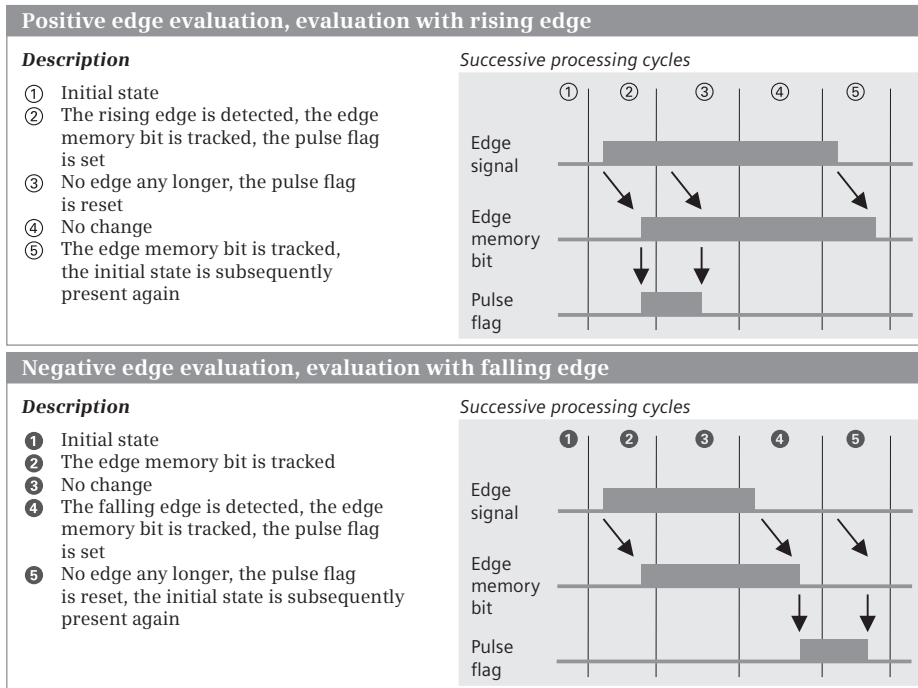
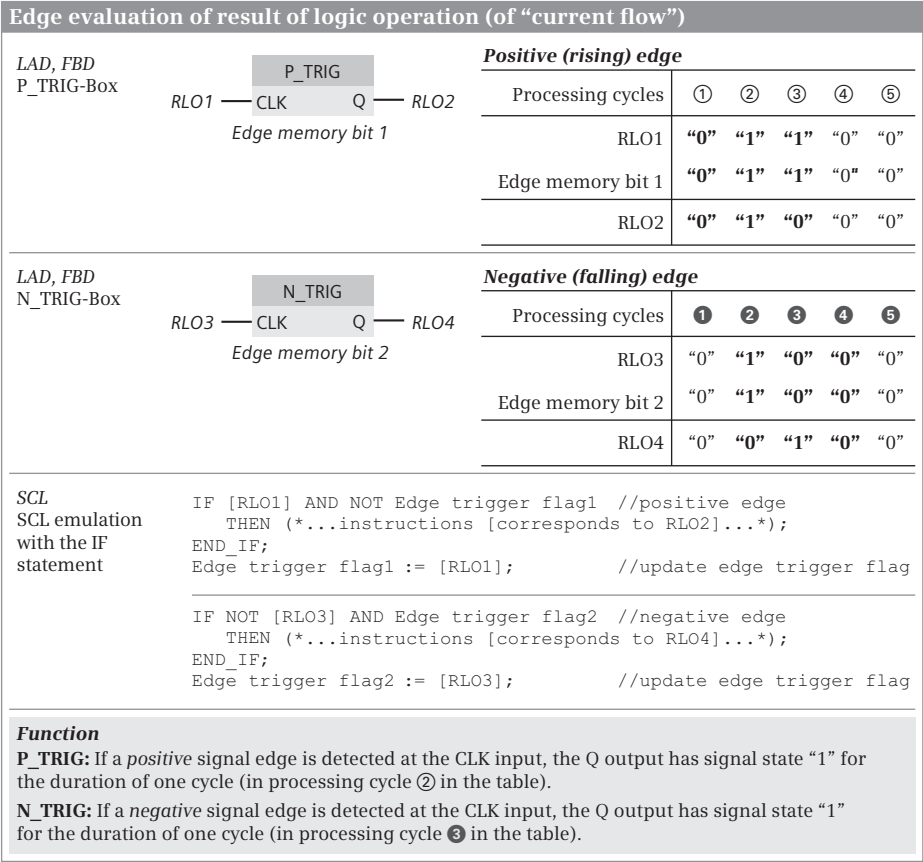
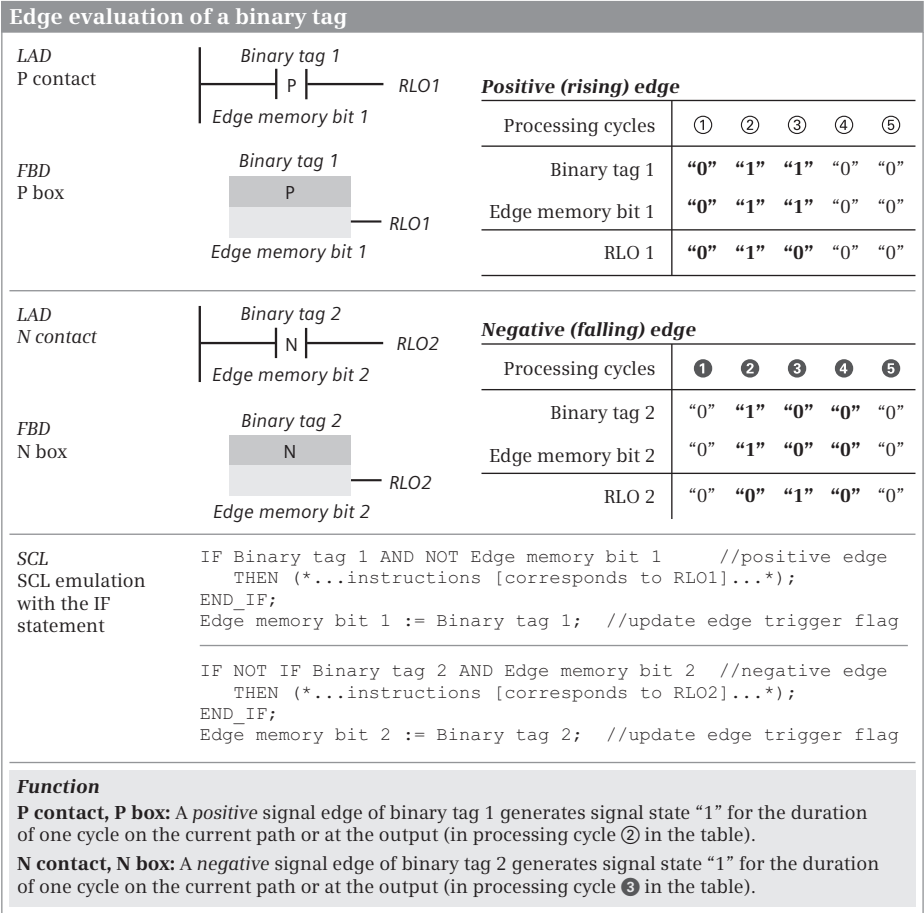
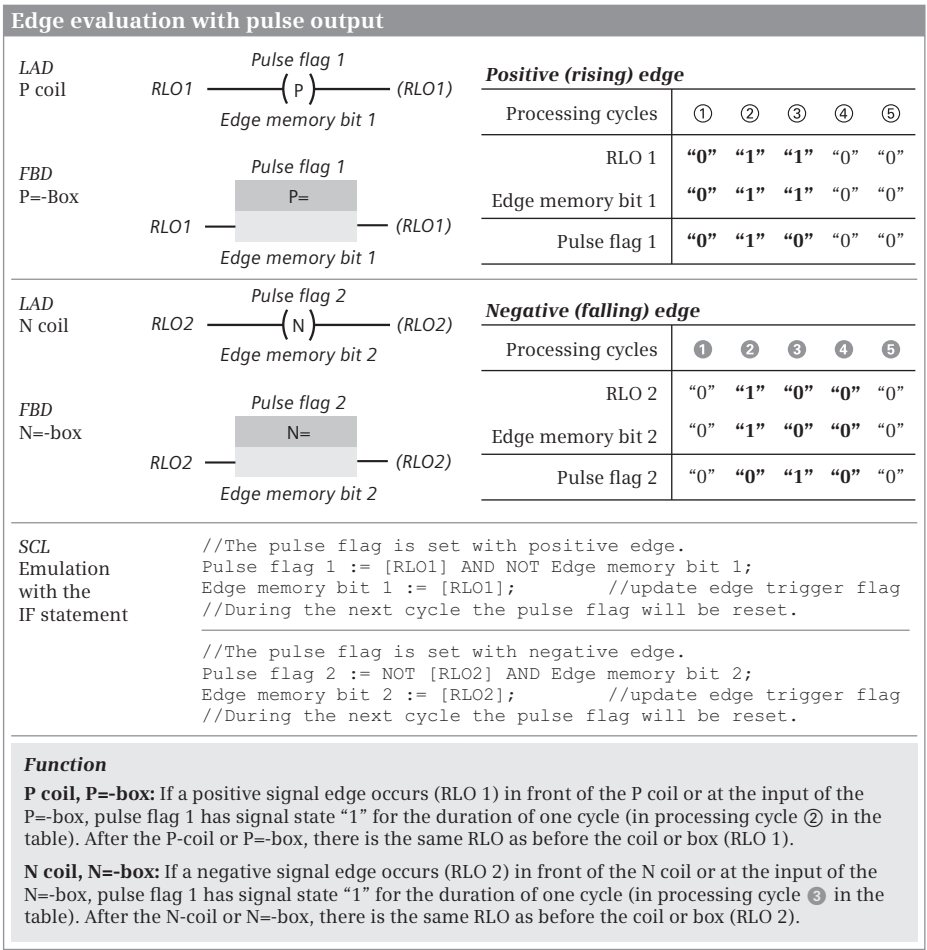

Fig. 10.11 Principle of operation of an edge evaluation in successive cycles
Fig. 10.12 Edge evaluation of result of logic operation (of the “current flow”)
Fig. 10.13 Edge evaluation of a binary tag
Fig. 10.14 Edge evaluation with pulse output
Principle of operation of the positive edge (Fig. 10.11): ① In the initial state, the signal being monitored for an edge, the edge trigger flag, and the pulse flag have signal state “0”. ② The edge signal then changes its state from “0” to “1”. The signal state of the edge trigger flag is initially still “0” so that a rising edge is detected and the pulse flag is set to “1”. The edge trigger flag is updated to signal state “1”. ③ The next processing cycle does not show a change in the signal state or edge signal (comparison with signal state of edge trigger flag). The pulse flag is reset to “0”. ④ No changes take place in the next processing cycles. ⑤ If the edge signal is reset to state “0” again, the edge trigger flag is also updated and the initial state is reached. The pulse flag was therefore only set to “1” for one processing cycle.
Fig. 10.12 shows the representation and signal states of edge evaluation. The principle of operation of edge evaluation is described in detail in Fig. 10.11: The edge signal corresponds to the result of logic operation present at the CLK input, the edge trigger flag corresponds to the binary tag named underneath the function, and the pulse flag corresponds to the result of logic operation following the edge evaluation.
Fig. 10.13 shows the representation and signal states of edge evaluation. The principle of operation of edge evaluation is described in detail in Fig. 10.11 on Seite 340.
The function of the edge evaluation is shown in Fig. 10.14; the description corresponds to that in Fig. 10.12 on Seite 341. Here, the edge signal corresponds to the result of preceding logic operation (the “current flow”).